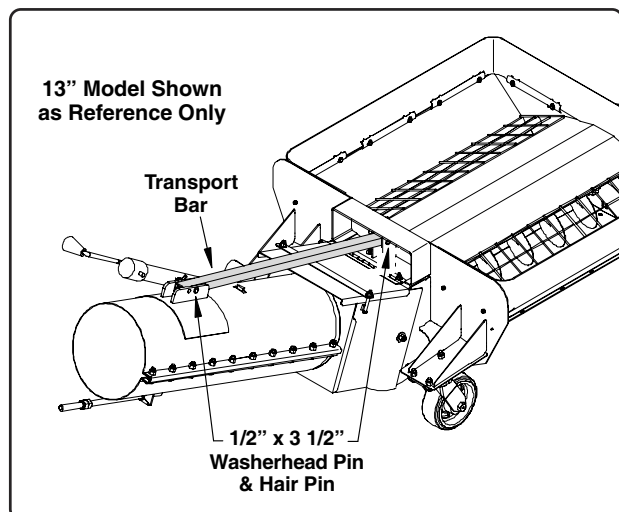

Fig. 2
- Position transport bar so the end with one hole is between the mounting tabs located above the hinged cover (See Fig. 2).